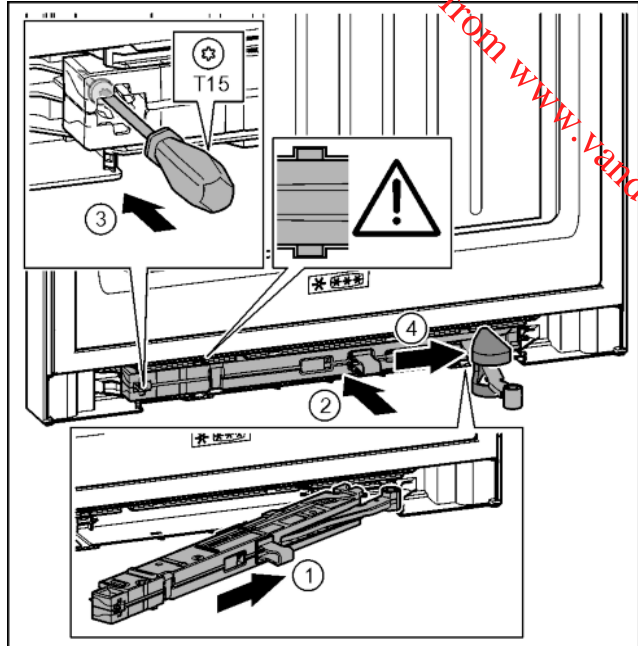

Fig. 36
- ▶ Slide the soft-stop mechanism on the bearing bracket at an angle into the gap as far as the limit stop. Fig. 36 (1)
- ▶ Slide the soft-stop mechanism fully into the gap. Fig. 36 (2)
- ▶ Tighten the screw with the T15 screwdriver. Fig. 36 (3)
- ▶ Slide the cover over the hinge. Fig. 36 (4)